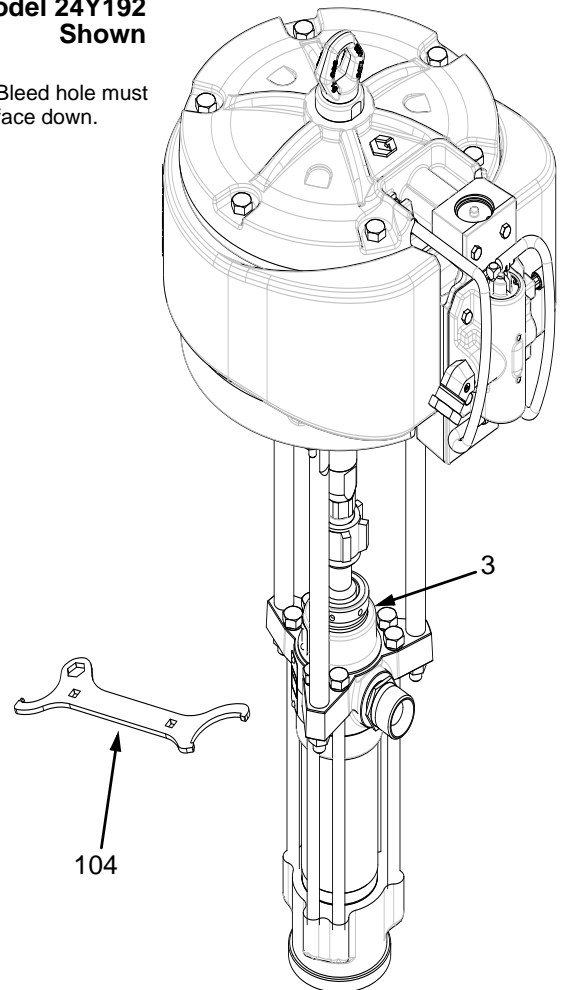

Fig. 6
Fill the packing nut/wet-cup (3) 1/3 full with Graco Throat Seal Liquid (TSL) or compatible solvent. See Fig. 6. Using the supplied wrench (104), adjust the packing nut weekly so it is just snug; do not overtighten. Follow the **Pressure Relief Procedure Warning** above before adjusting the packing nut.
4. If the pump fails to prime properly, open the bleeder valve (35) slightly. Use the bleed hole on the underside of the valve body (34) as a priming valve until the fluid appears at the hole. See Fig. 6. Close the plug (35).
**NOTE:** When changing fluid containers with the hose and gun already primed, open the bleeder valve (24), to assist in priming the pump and venting air before it enters the hose. Close the bleeder valve when all air has been eliminated.
8. If the pump fails to prime properly, open the bleeder valve (35) slightly. Use the bleed hole, on the underside of the body (34), as a priming valve until the fluid appears at the hole. See Fig. 6. Close the plug (35).
10. Use the fluid pressure gauge (F) and flow control valve (G) to control the pump speed and the fluid outlet pressure. Always use the lowest hydraulic flow and pressure necessary to get the desired results. Higher pressures cause premature tip/nozzle and pump wear.